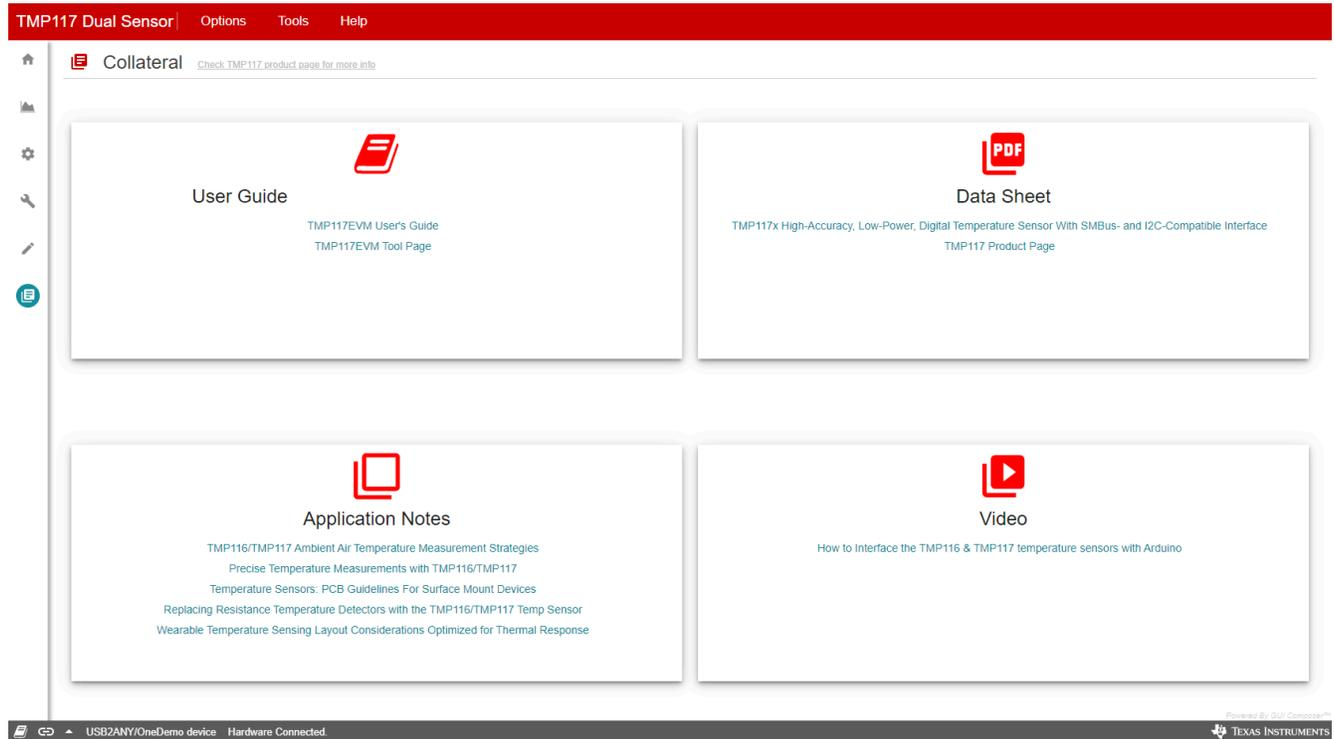

Figure 3-14. Collateral Page
The last page of the GUI is the Collateral page, shown in Figure 3-14, which contains links to web documents pertinent to the TMP117 and its EVM. The page is divided into four sections: (1) User Guide, (2) Data sheet, (3) Application Notes, (4) Video.